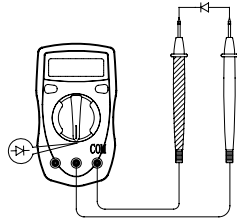

Figure 5
E. Diodes and Continuity Measurement (see figure 5)